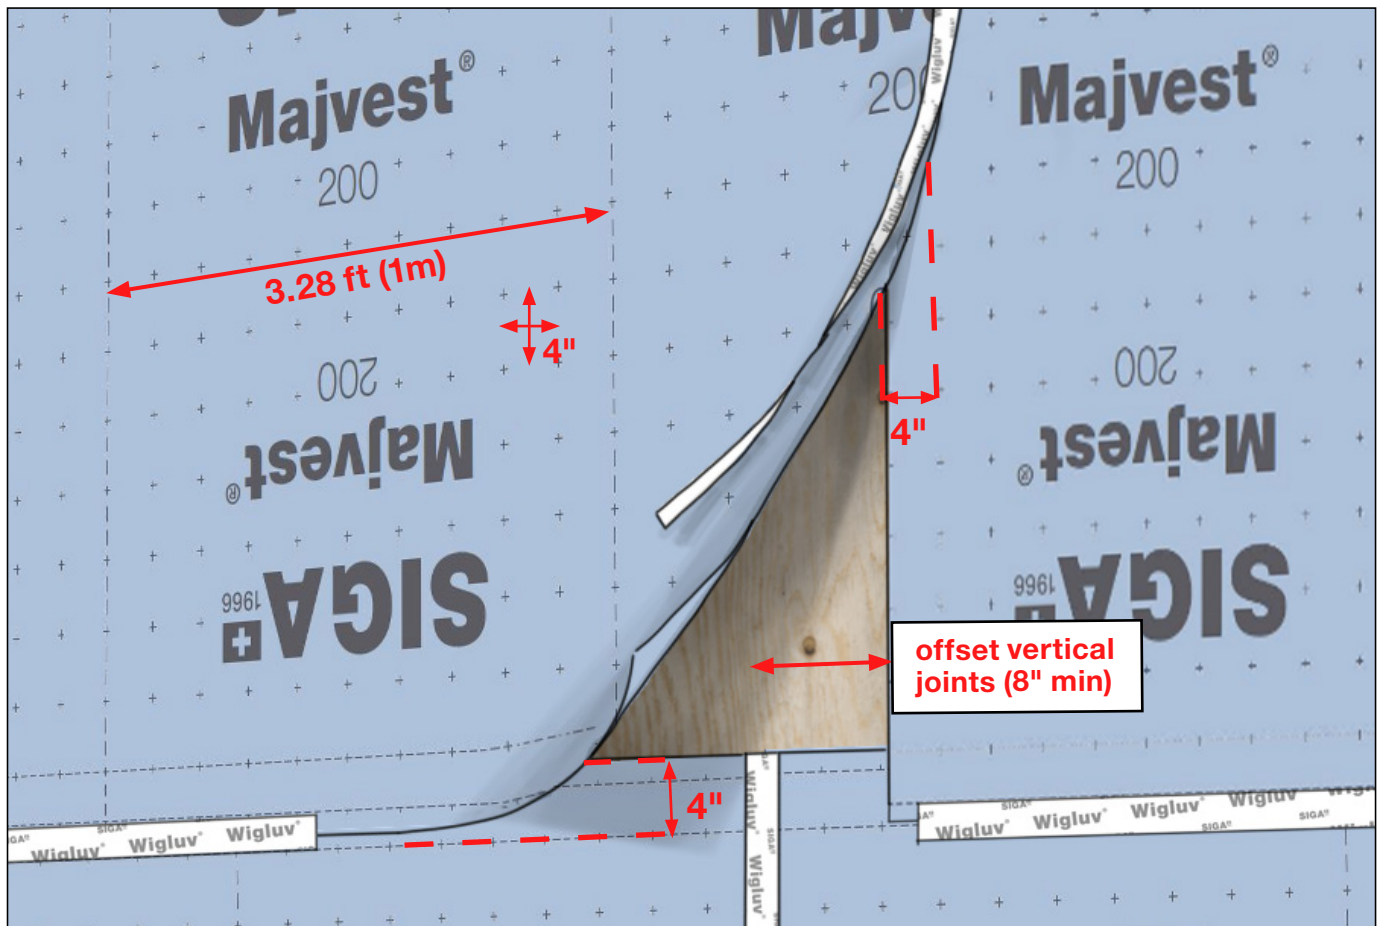

Figure 2
- Minimum vertical and horizontal overlap is 4" (see Figure 2)